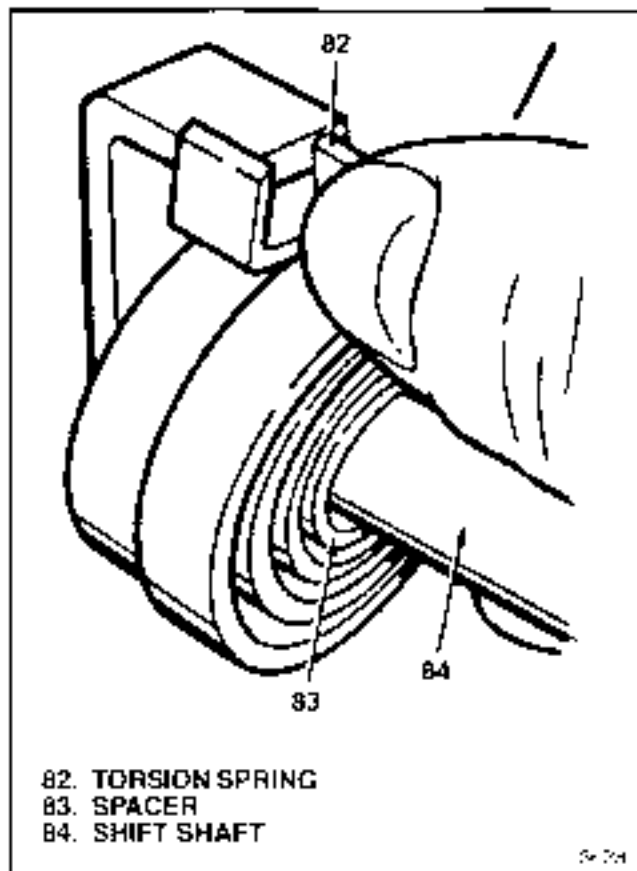

Figure 5-8. Installing Second Spring End
c. Twist second spring (82) end to right of drive tang on shift shaft (84) (see figure 5-8).